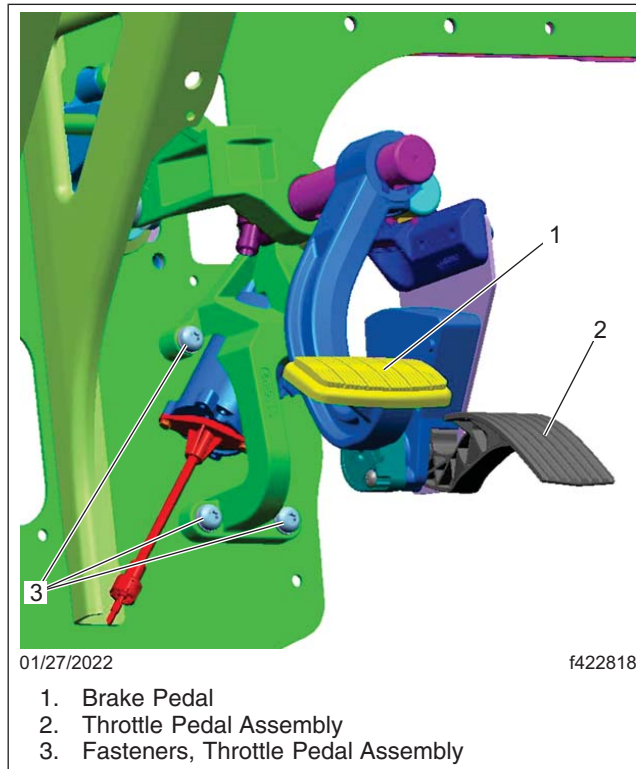

Fig. 4, Pedal Location
5. Disconnect the two electrical connectors and one cable from the throttle pedal, then remove the throttle pedal assembly by removing the three mounting bolts. See Fig. 4.
6. Position the throttle pedal assembly on the firewall, then install the three throttle pedal mounting bolts. Tighten the bolts 13 lbf·ft (18 N·m). See Fig. 4.